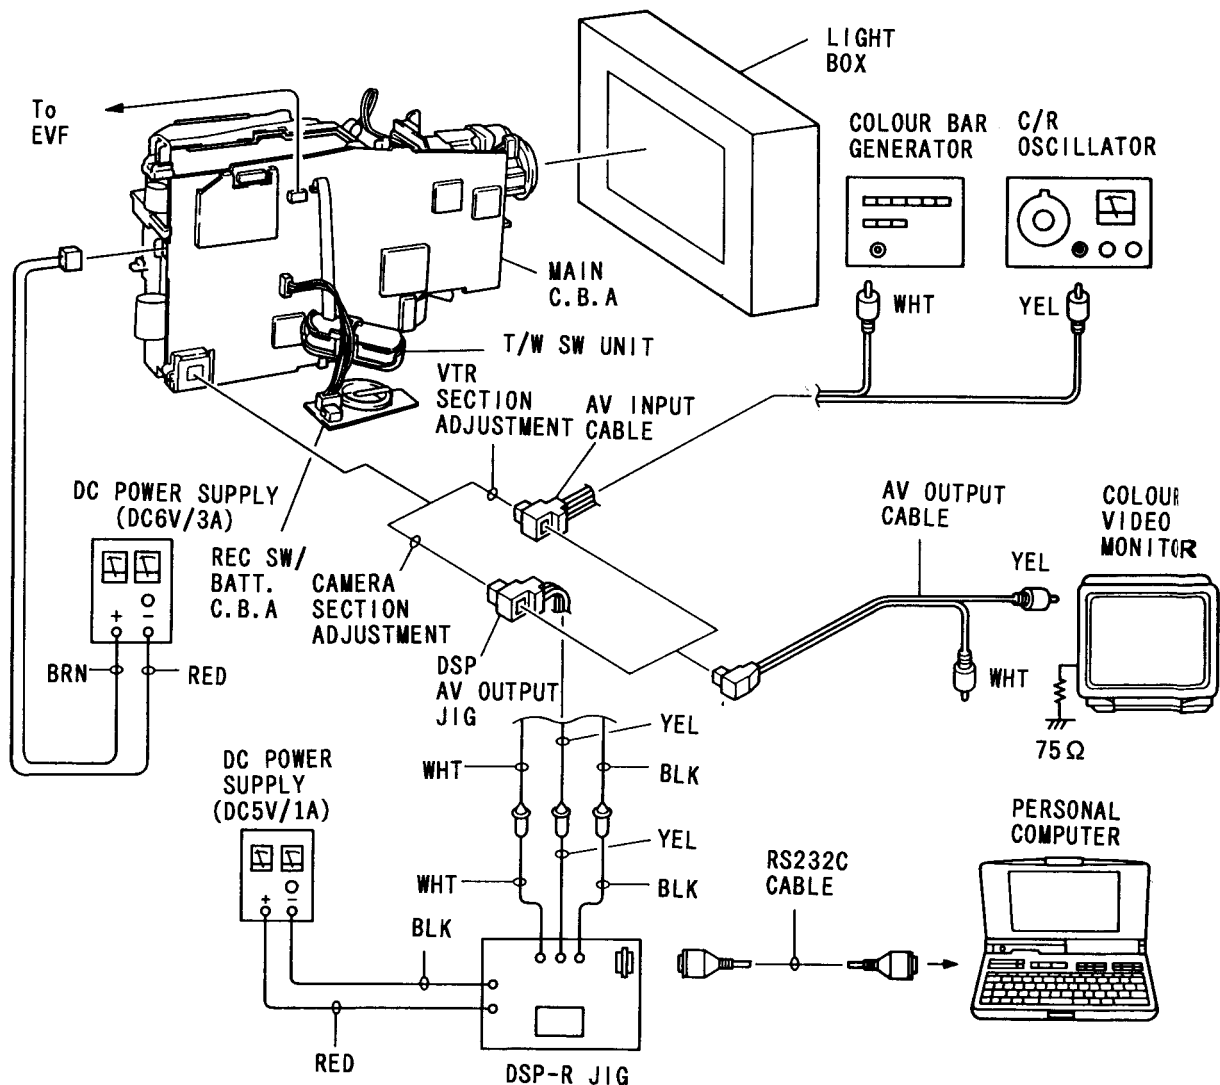

Fig. 1-1
Remove the components, etc. listed below first, referring to CHAPTER 2 DISASSEMBLY. (See Fig. 1-1)
- 3) Connect this unit, a power supply and a colour video monitor as shown in Fig. 1-1.
Connect the camera/recorder, DSP jig, personal computer, power supply, etc. as shown in Fig. 1-1.